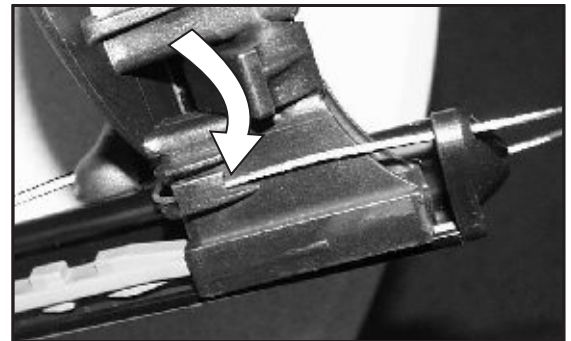

Figure 5. Snap cable into guide on underside of Footbrace.
c) Thread the cable through the guide on the bottom side of the Foot Pedal. (Fig. 5)